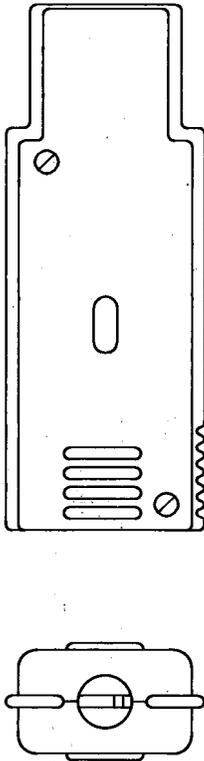

Fig. 4—520A Plug
2.04 520A: The 520A (Fig. 4) is a polarized plug consisting of 14 contacts on a printed wiring board, two plastic covers, a strain relief arrangement, and associated hardware. The 520A plug is arranged with gold-plated printed connector fingers to provide electrical continuity between the conductor pattern and external circuitry when plugged into a 912B1 connector. The other end of the conductor pattern is arranged for connection to a P14D cord. The 520A plug is used on the 4A Toll Switching System.